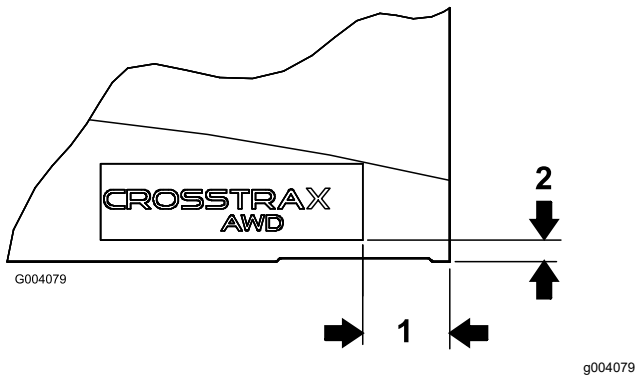

Figure 13
2. Using the dimensions shown in Figure 13, locate and affix a CROSSTRAX decal to the lower rear corner of each side of the hood.